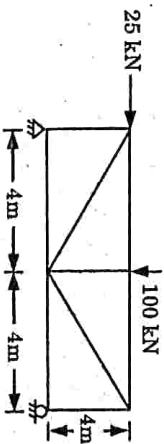

Fig. 1.
- e. Determine the force in all the members of the truss shown in Fig. 1.